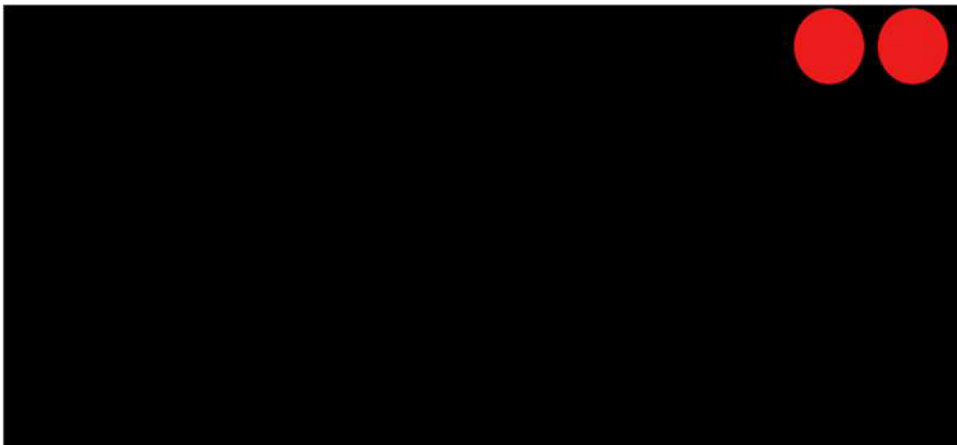
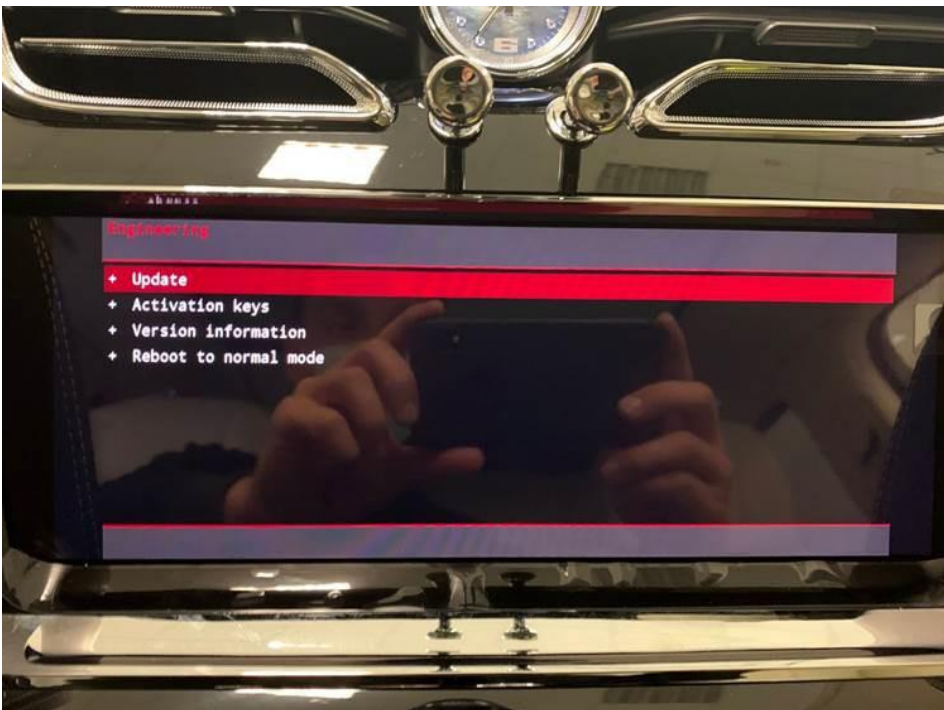

Figure 3
Figure 4
3. Using two fingers, press and hold the MMI screen in the area's highlighted by the red circles (Figure 3) until the red engineering menu appears (Figure 4). select 'Update'.